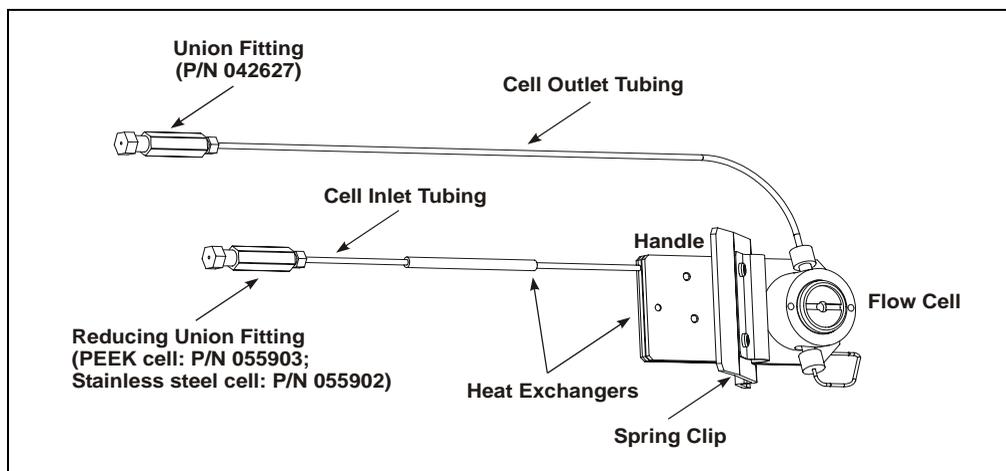

Figure B-4. Flow Cell Connections
2. Connect the cell inlet tubing to the reducing union fitting (P/N 055903 for PEEK cell; P/N 055902 for stainless steel cell) on the heat exchanger tubing (see Figure B-4).
3. Connect a backpressure line to the cell outlet connection (see Figure B-4). The backpressure line will provide enough restriction to generate the small amount of backpressure (0.14 to 0.34 MPa; 20 to 50 psi) required to help prevent bubbles from forming in the cell.